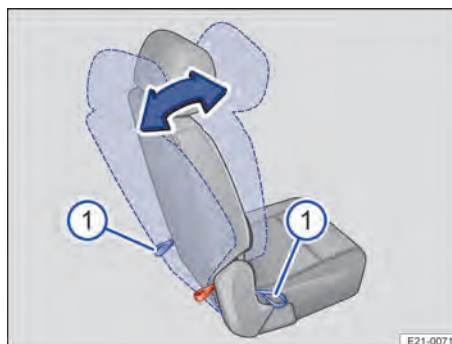

Fig. 68 Second row of seats: adjusting the angle of the backrest.
1. Apply pressure to the backrest with one hand and at the same time pull one of the corresponding loops behind the seat or at the side of the seat forwards → Fig. 68 ①.